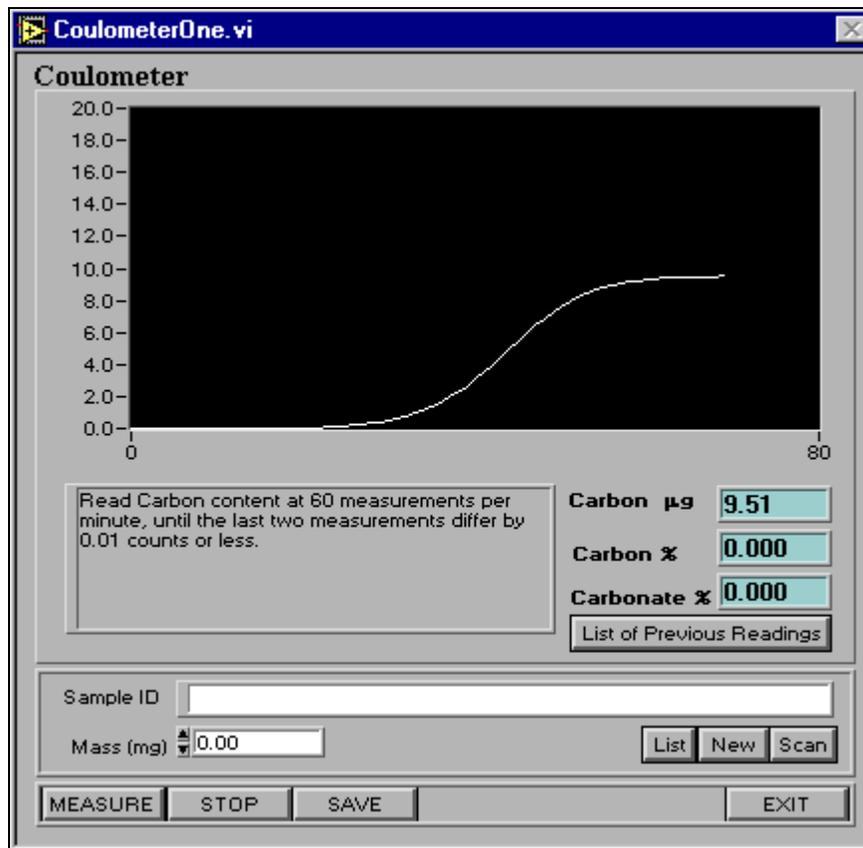

Figure 20. Simulated coulometer reading.
- The program will then simulate the readings with a graphical output (see Figure 20). **Note that these readings are not the actual carbon content of the sample.**